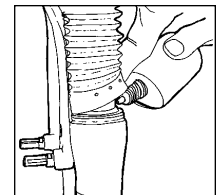

Fig. 7
1. Wipe exterior surfaces, Resi-wiper seal area and upper tube clean. Apply 2-3 drops of Teflon-fortified oil to the upper tubes at the Resi-wiper (see Fig. 7).